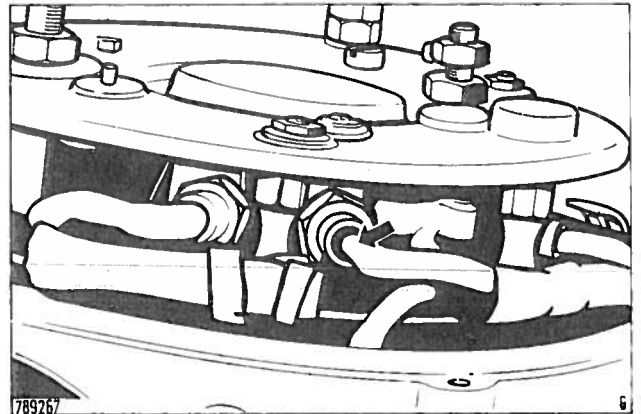

Fig. 65 Showing insulating sleeve fitted over exciter diode lead and stator connection cable
4. Fit the stator in the slip-ring end frame. Draw the positive and negative diode leads together and slip through an insulating sleeve. Push the insulating sleeve over the lead of the exciter diode and stator connection cable Fig. 65.